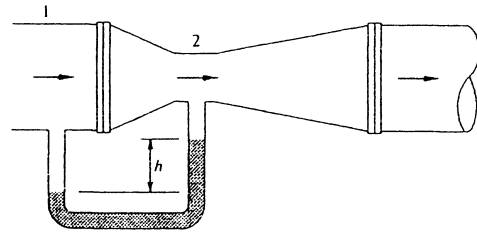

Fig. P3.165
3.165 A *venturi meter*, shown in Fig. P3.165, is a carefully designed constriction whose pressure difference is a measure of the flow rate in a pipe. Using Bernoulli's equation for steady incompressible flow with no losses, show that the flow rate Q is related to the manometer reading h by